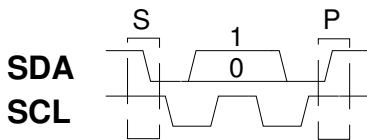

Figure 2. I2C protocol definitions
Two wire I2C bus protocol has special bus signal conditions. Figure 2 shows start (S), stop (P) and binary data conditions. At start condition the SCL is high and SDA has falling edge. At stop condition the
Each I2C bus operation like write starts with start command (see figure 2). After start the MAS6501 device address with write bit (AW, see table 2) is sent and ended to acknowledge (A). After this control register address (AC, see table 3) is sent
and ended to acknowledge (A). Next control register data (DC, see table 1) is written and ended to acknowledge (A). Finally the I2C bus operation is ended with stop command (see figure 2).